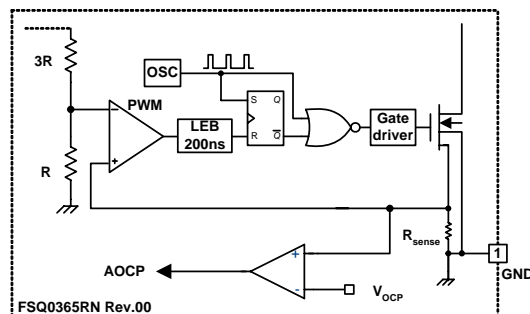

Figure 25. Abnormal Over-Current Protection
4.2 Abnormal Over-Current Protection (AOCP): When the secondary rectifier diodes or the transformer pins are shorted, a steep current with extremely high-di/dt can flow through the SenseFET during the LEB time. Even though the FSQ-series has OLP (Overload Protection), it is not enough to protect the FSQ-series in that abnormal case, since severe current stress is imposed on the SenseFET until OLP triggers. The FSQ-series has an internal AOCP (Abnormal Over-Current Protection) circuit as shown in Figure 25. When the gate turn-on signal is applied to the power SenseFET, the AOCP block is enabled and monitors the current through the sensing resistor. The voltage across the resistor is compared with a preset AOCP level. If the sensing resistor voltage is greater than the AOCP level, the set signal is applied to the latch, resulting in the shutdown of the SMPS.